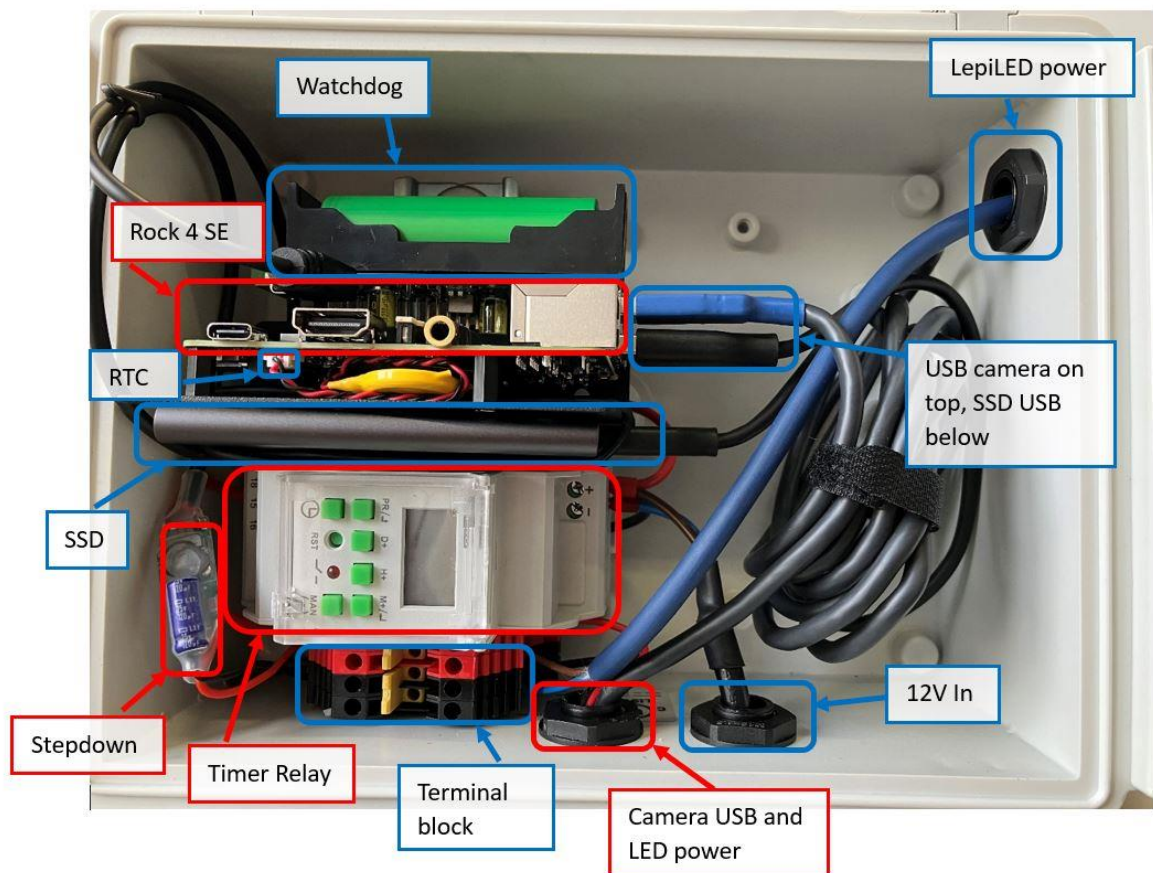

Figure 9: Annotated image of different components inside the AMI.
6. You need to feed the LepiLED cable (blue cable with blue and brown wires exposed at the end) into the box through the hole on the right hand side (figure 9 'UV light power'). First remove the nut from the inside of the gland, fitted to the hole (figure 7 step 6a). Second, pass the blue LepiLED wire through the gland from the outside. Finally pass the nut over the wire and tighten to the inside of the gland, this will secure the wire in place. Connect the blue and brown wires from the end of the blue LepiLED cable to the red and black terminal block at the bottom of the box (figure 7 step 6b). The blue wire to the right-hand side of the bottom black terminal block, there will be one space free, do not remove the wire already connected. To do this use a small flathead screwdriver unscrew the screw on the front of the bottom black terminal block. Place the metal part of the blue wire in the free hole on the right side of the bottom black terminal block and then screw tight again, once tightened give the wire a light tug to check it is securely in place. Repeat this procedure for the brown wire, placing it into the right hand side of the bottom red terminal block.
Figure 9 shows an annotated image of the AMI-system housing where the Rock Pi and other components are placed.